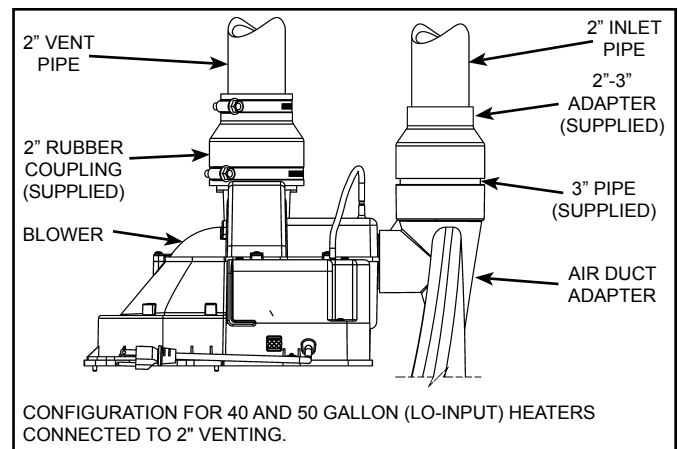

Figure 44.
4. Make sure that the plastic tubing is still attached from the air pressure switch to the port on the blower motor housing. Make sure the plastic tubing is not folded anywhere between the pressure switch and the blower motor housing (see Figure 44 thru Figure 48).
**Important:** These connections must be properly seated and tightened to prevent the leakage of flue gases into the area. See Figure 44 thru Figure 48.